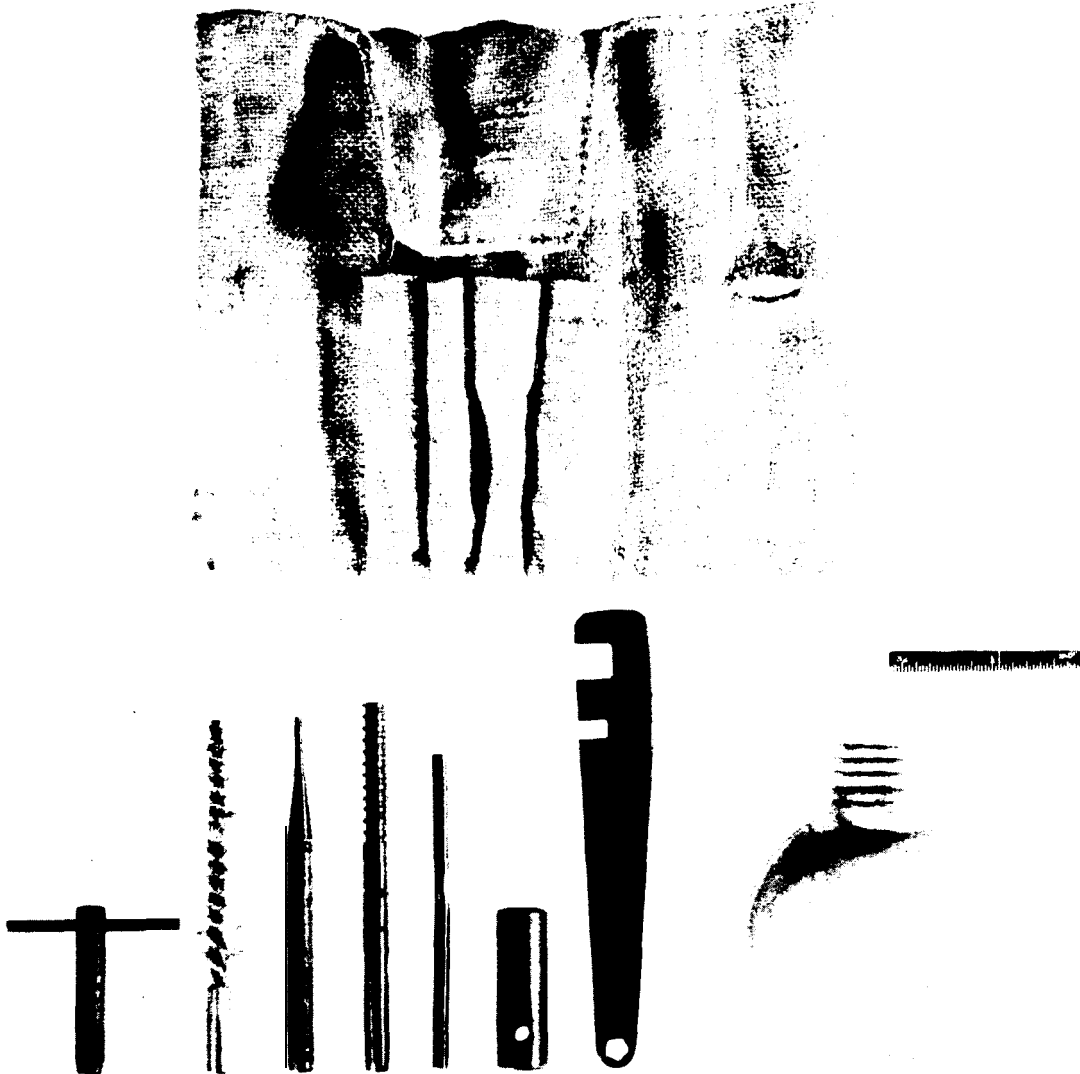

FIGURE 68. ACCESSORY POUCH AND CONTENTS.
- d. Each rifle is furnished with a full-length cleaning rod which is fitted in the stock. An accessory pouch (fig. 68) is issued to, and carried by, each rifleman.
d. Each rifle is furnished with a one-piece cleaning rod which is fitted in the stock. An accessory pouch (fig. 68) is carried by each rifleman. A bayonet and scabbard is issued with each rifle, as shown in figure 75.